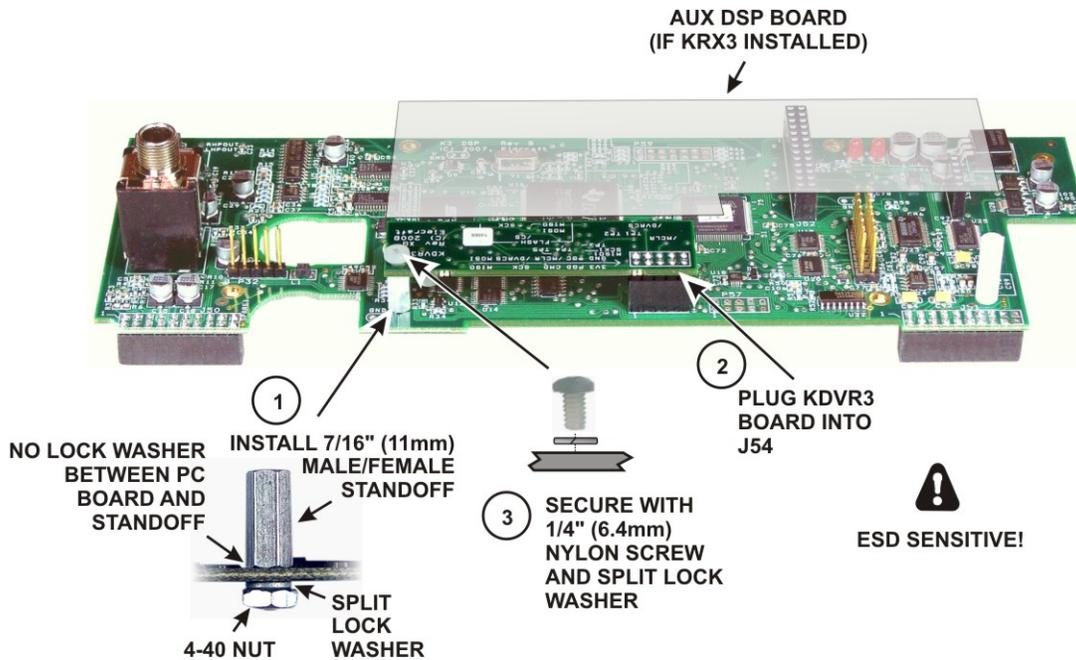

Figure 10. Installing the KDVR3 Board on the Main DSP Board.
□ Install the KDVR 3 board on the main DSP board as shown in Figure 10. Be sure you use the nylon screw. A metal screw here may short to the front panel board after reassembly. **Do not over tighten the nylon screw. It is easy to strip the threads. Look at the split in the lock washer and tighten the screw only until the washer is compressed flat.**
- Replace the nine top cover screws shown in Figure 10 on page 6. Replace and tighten all the screws. Loose or missing screws may result in birdies or other hard-to-locate problems with your K3.